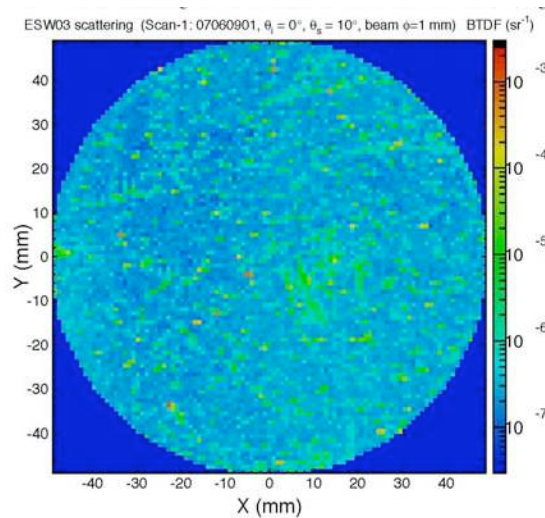
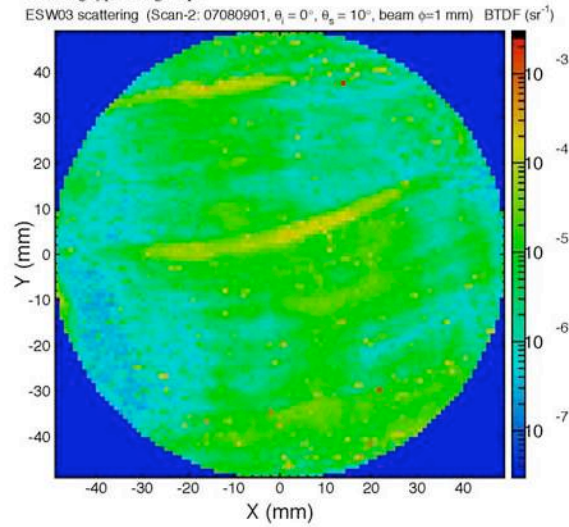
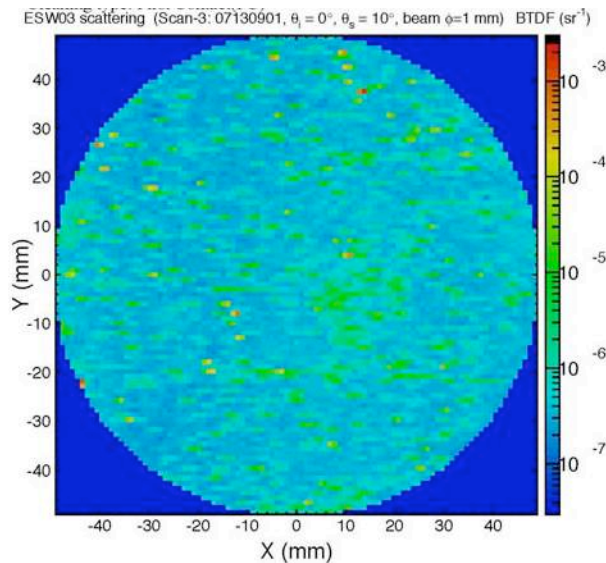
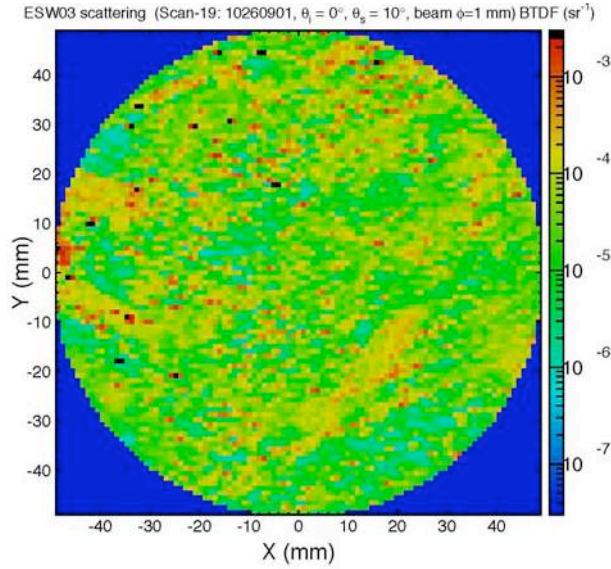

Figure 1: 2.05 ppm average BRDF on optic before cleaning
Figure 2: 10.7 ppm average BRDF on optic after old methanol drag wipe
Figure 3: 2.41 ppm average BRDF after cleaning with first contact
Figure 4: 109 ppm average BRDF. Cleaned by submerging optic in a bath of old methanol
The purpose of this document is to outline the strengths and weaknesses of using a methanol drag wipe vs first contact for cleaning optics. Liyuan Zhang's CASI scatterometer was used to take raster scans of BRDF at 10 degrees from specular beam, with 1mm beam and step size. In Fig.1-6 a two-sided AR coated optic, 6'' in diameter was used for testing. It was drag wiped and cleaned with first contact several times. In Fig. 7-8 measurements were taken of a 3'' in diameter HR coated optic cleaned with First Contact (FC) only. Using these BRDF measurements, maps of the optic's scatter and average scatter values were obtained, which is shown in Fig.1-Fig.8.
The following scans show the scatter from the first attempts to drag wipe with old methanol. It is evident in this scan that the drag wipe leaves a significant amount of residue behind on an otherwise clean optic. Fig. 1 is a surface map of the optic prior to any cleaning, and Figure 2 is the same surface after a drag wipe using old methanol.
After the drag wipe cleaning in Fig. 2, the optic was cleaned with First Contact to see if it would get rid of the methanol residue. Figure 3 is the result of cleaning with First Contact.
The tests in this section were on the same 6'' optic as Fig.1-3, this time the optic was completely submerged in a methanol bath, first using old methanol (Fig.3) and then using new methanol (Fig. 4).